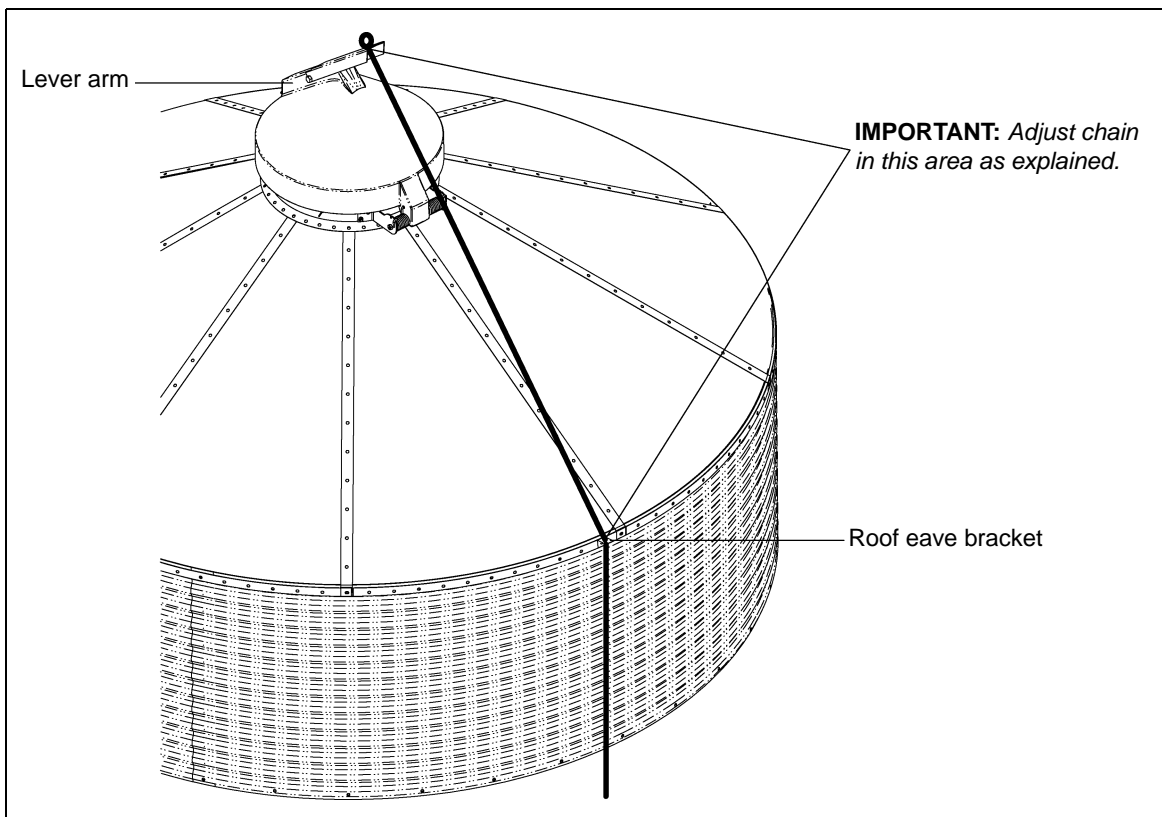
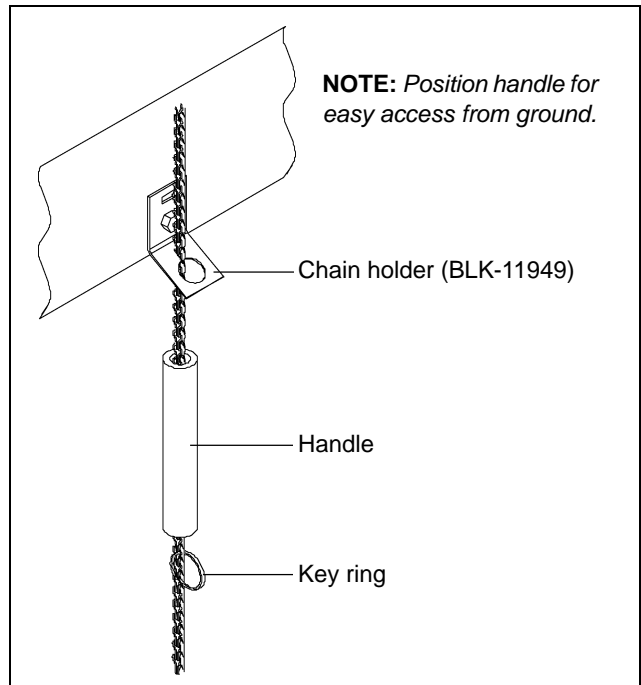

Figure 1
**Figure 7** Tighten Bolts Until Flush with Bracket
**NOTE:** If there was no previous chain, roof eave bracket or chain holder bracket, a chain will need to be purchased and the brackets included will need to be attached to the side of the bin, vertically aligned with the lever arm. (See Figure 1.)
3. Place the new lid assembly over the existing peak ring collar and rotate lid assembly such that the lever arm and spring hinge line up with the roof eave bracket. (See Figure 1 on Page 1.) Use a clamp to pull the mounting brackets together. Slide the carriage bolt through the mounting bracket and then the 2-3/4" spacer and then loosely fasten the nut. (See Figure 6.) Remove clamp and then tighten the bolt with 9/16" ratchet and tighten until flush. (See Figure 7 on Page 4.)